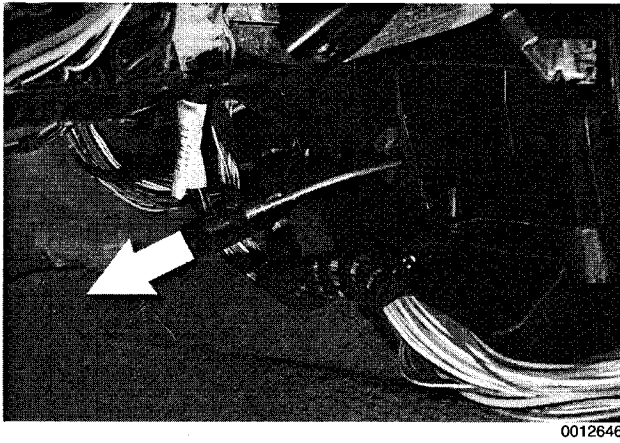

Fig. 49. Pull out evaporator sensor from housing in direction of arrow.
3. Disconnect sensor electrical connector from heater box. Pull sensor straight out of heater box. Refer to Fig. 49.